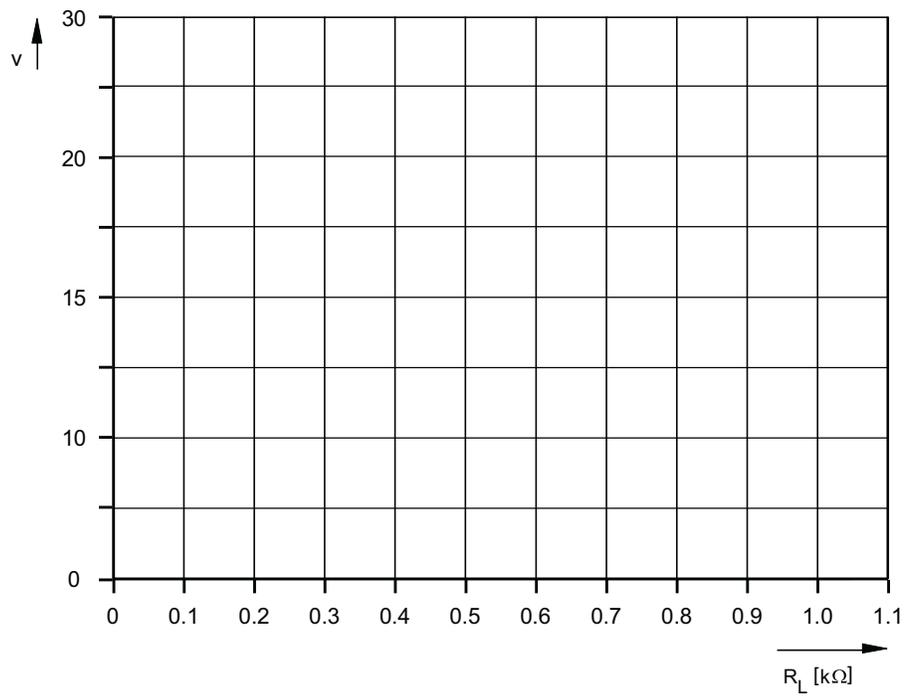

Fig. 6.2.2.4
- On the diagram (Fig. 6.2.2.4), plot a graph showing the dependence of the voltage gain  $v$  on the load resistance  $R_L$ .